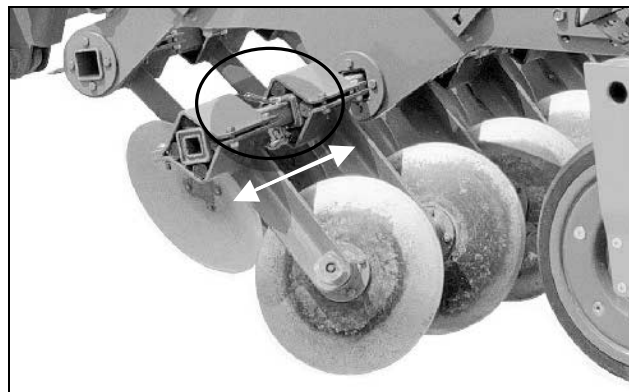

Fig. 37
- Slide in the side discs (Fig. 37) and affix by using securing pins and lynch pins.